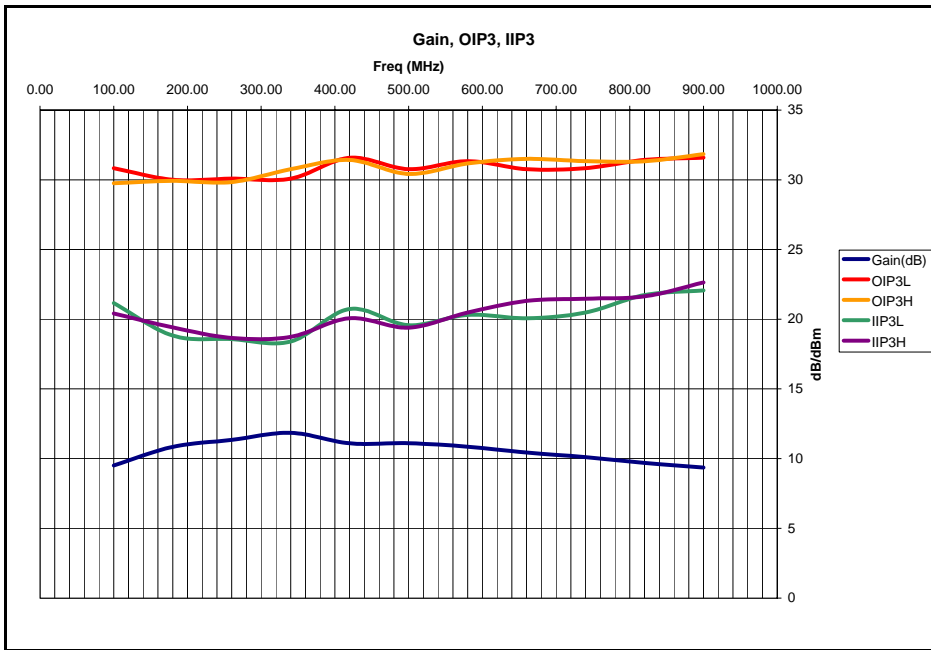
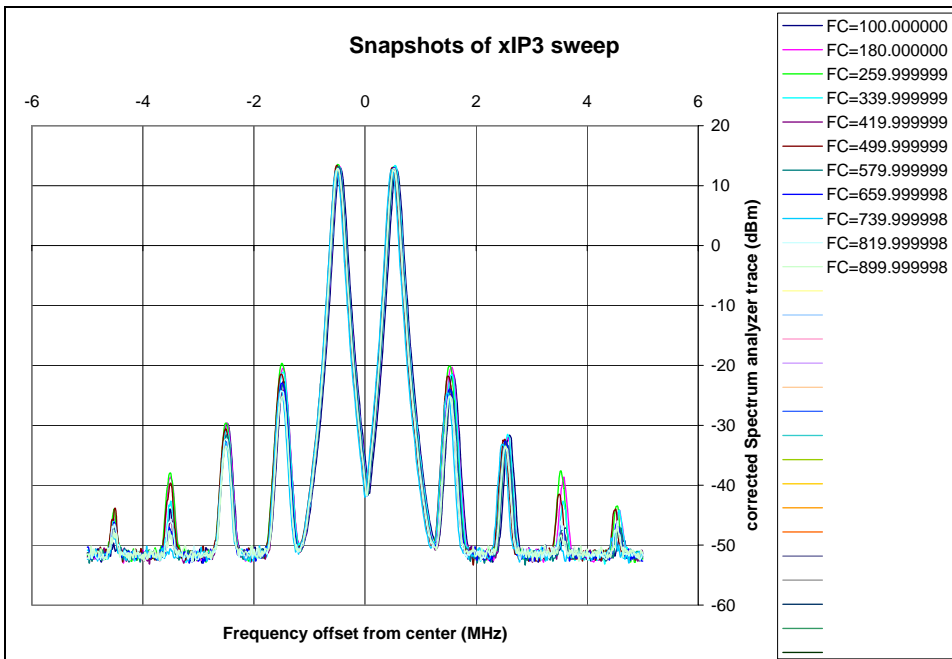

Figure 3: 11 point sweep of an AH1 amplifier prototype
Figure 4: "Snapshots" taken during the sweep
13. The report files (report and snapshot) can be opened to review the output. For graphs, just select all the text of the report and paste them into the Excel templates provided in the installation directory (shortcuts are made to these). I typically get into a routine: I click on the data file, hit CTRL-A (select all), then CTRL-C (copy), then I close the file (when prompted I say, yes – I want to keep this data on the clipboard), then I open the template, click on cell A1 in the "paste data here" tab and hit CTRL-V (paste). The templates can be found as shortcuts in the programs menu where the software was installed – just make sure you save them somewhere else once you've pasted the data. The resulting graphs for (an old, outdated) this sweep can be found in Figure 3 and Figure 4 . Note that if the leveling loop fails, an ERROR term is shown in the output report and on the output graph labeled "Error_chart". The leveling works well, but still fails occasionally for some reason. A flaky DUT will definitely cause it to fail, as will specifying levels which cannot be achieved (such as levels above which the generators can supply). OIP3H/L are the OIP3 based on the high tone/IM3 product and Low tone and IM3 product. Significant imbalance in these should raise a warning flag.